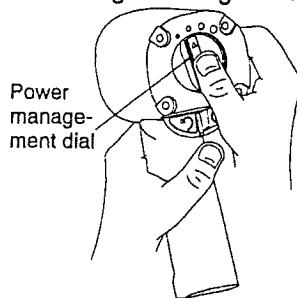

Figure 3
- NOTICE:** When pulling, disassembling or assembling the motor, we recommend replacement of the Motor Gasket (7).
1. Remove the Motor Assembly from the Housing (19) by pushing on Power Management Dial (41) from the back of the Housing. See Figure 3.